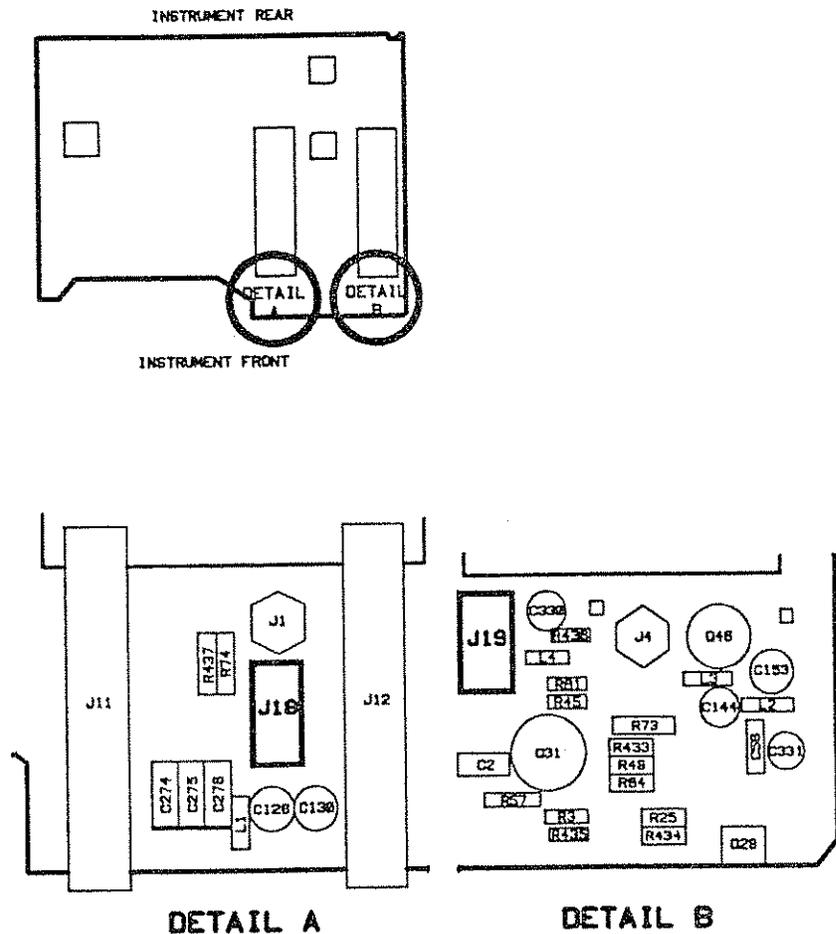

Figure 2-19. Channel 1 and Channel 4 DC Cable Locations
6. Depending on the channel in question, disconnect the cable at A1J18 (W26; CH 1) or A1J19 (W23; CH 4) on the A1 Control Board. See figure 2-19.